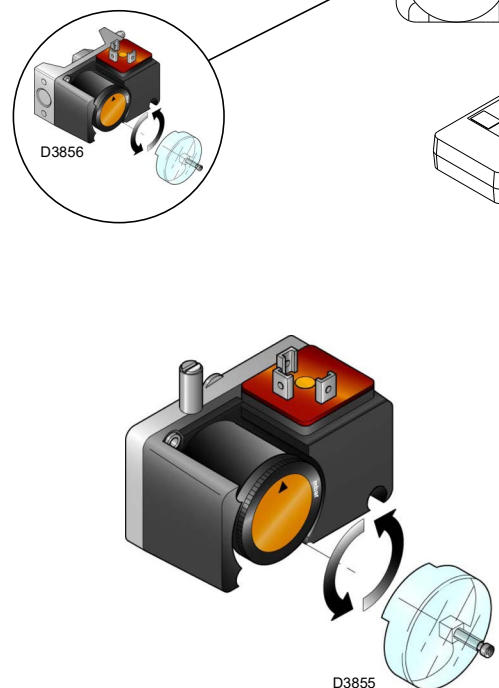

Fig. 36
- Adjust the minimum gas pressure switch (Fig. 36) to the start of the scale.
Adjust the minimum gas pressure switch (Fig. 36) after having adjusted the burner, the gas valves and the gas train stabiliser. With the burner operating at maximum output: